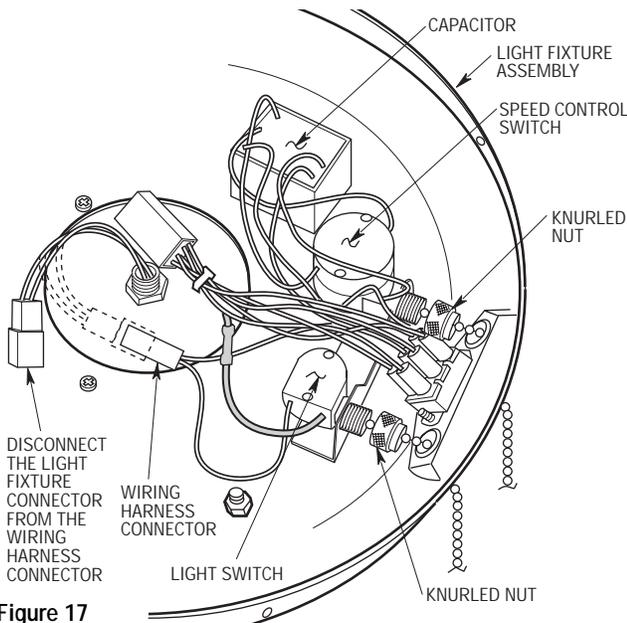

Figure 17
1. Disconnect the light fixture connector from the wiring harness connector (Figure 17). Unscrew the knurled nuts from the light switch and the speed control switch. (The knurled nuts are not interchangeable; keep them with their respective switch.) Gently pry the capacitor (secured by two-sided tape) from the light fixture assembly.